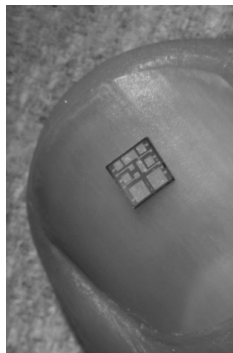

Figure 3.1 IC
**Integrated circuit (IC)** (see Figure 3.1), also called **microelectronic circuit**, **microchip**, or **chip**, is an assembly of electronic components, fabricated as a single unit, in which **miniaturized active devices (e.g., transistors and diodes) and passive devices (e.g., capacitors and resistors) and their interconnections are built up on a thin substrate of semiconductor material (typically silicon)**. The resulting circuit is thus a small monolithic “chip,” which may be as small as a few square centimeters or only a few square millimeters. The individual circuit components are generally microscopic in size.